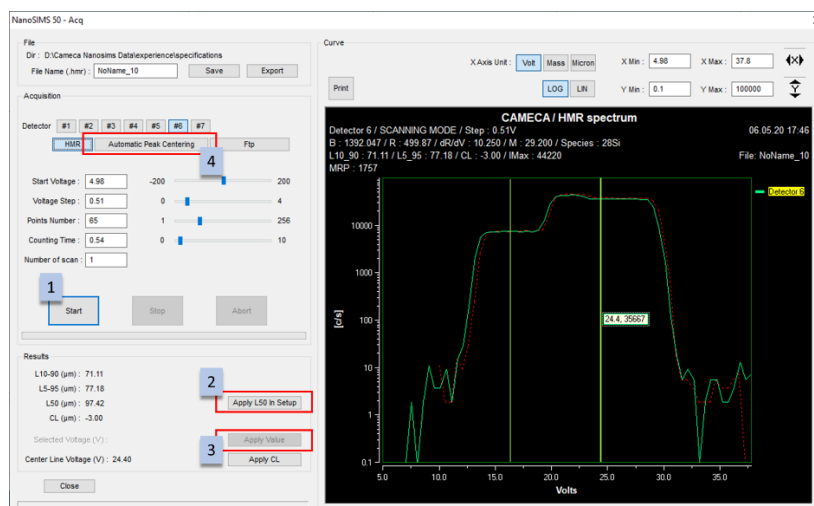

Figure 413: HMR centering with peak interference
- a. Step 1: Launch an **HMR scan** (refer to Figure 413),